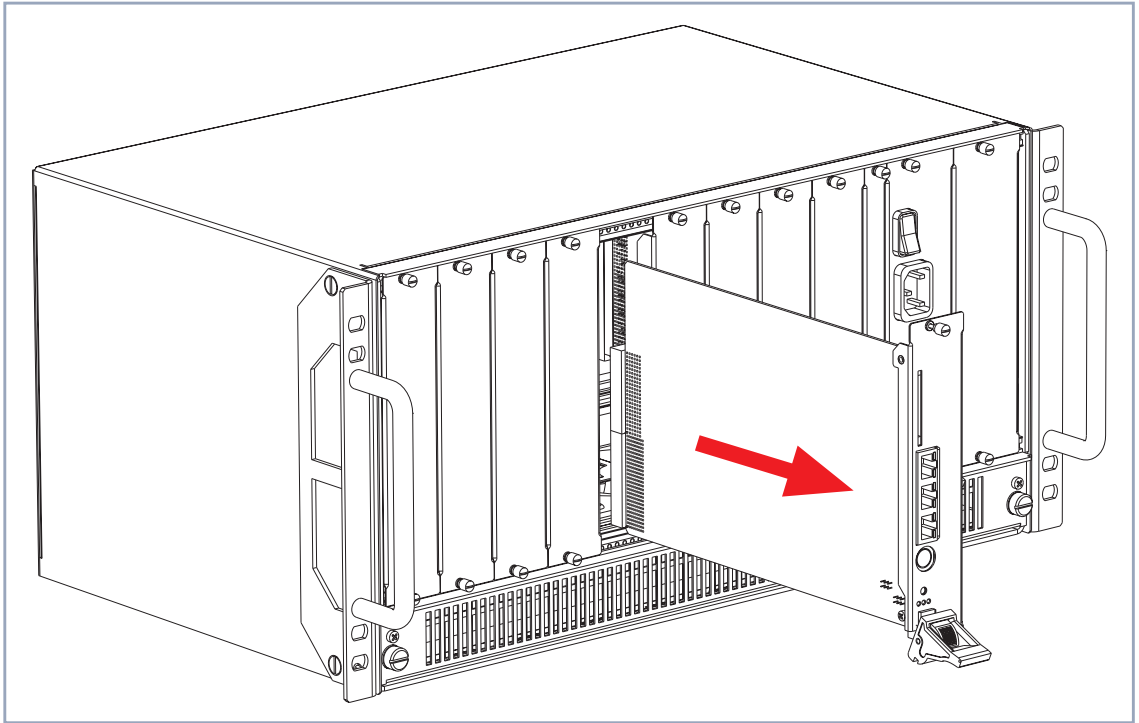

Figure 4-8: Removing an expansion card, step 3
- Draw the expansion card out of the slot as shown in figure 4-8, page 43. The expansion card is removed.
- Draw the expansion card out of the slot as shown in figure 4-8, page 43.